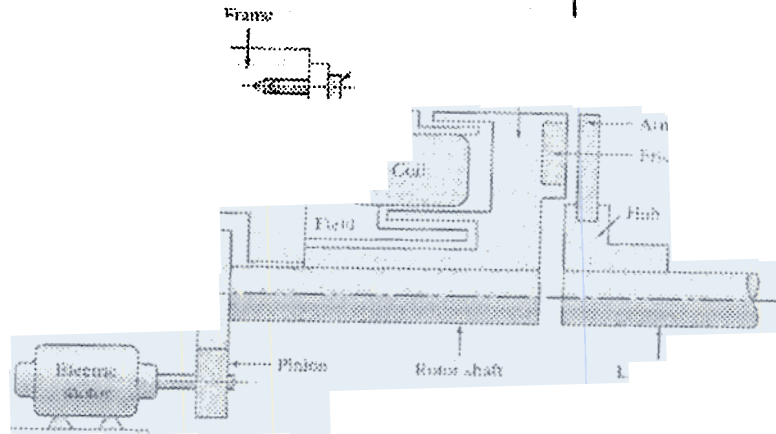

Figure-2
- (a) What is *assembly tree*? Sketch it for the electric clutch assembly shown in figure-2.